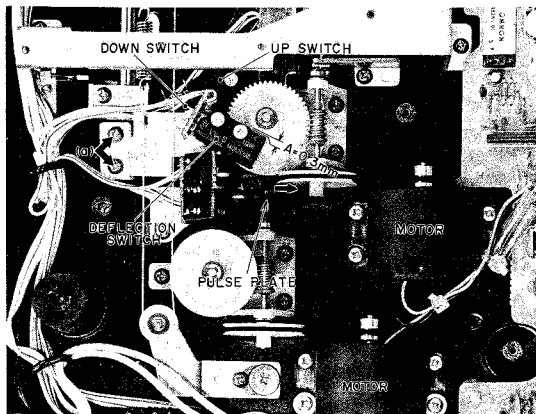

Fig. 21
##### ADJUSTMENT (Refer to Figs. 21, 22)
- 13) Turn the pulse plate clockwise (in the arrow direction shown in Fig. 21) by about 5 mm with your finger, and check that the pulse plate returns to its original position. If the pulse plate does not return, repeat from Step 4).
### ADJUSTMENT (Refer to Fig. 21)
- 2) The clearance A (Fig. 21) should be about 0.3 mm at this time.